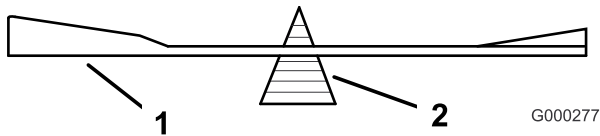
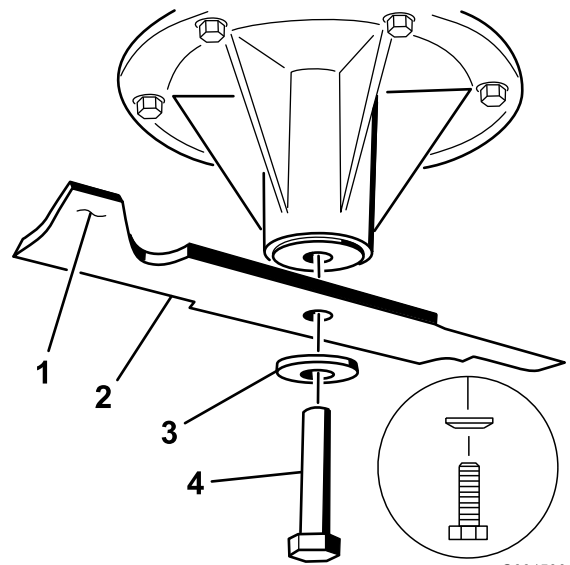

Figure 90
Figure 91
2. Remove the blade bolt, curved washer, and blade from the spindle shaft (Figure 91).
2. Check the balance of the blade by putting it on a blade balancer (Figure 90). If the blade stays in a horizontal position, the blade is balanced and can be used. If the blade is not balanced, file some metal off the end of the sail area only (Figure 91). Repeat this procedure until the blade is balanced.
1. Install the blade onto the spindle shaft (Figure 91).
2. Install the curved washer and blade bolt. The curved washer cone must be installed toward the bolt head (Figure 91). Torque the blade bolt to 115-150 N-m (85-110 ft-lb).